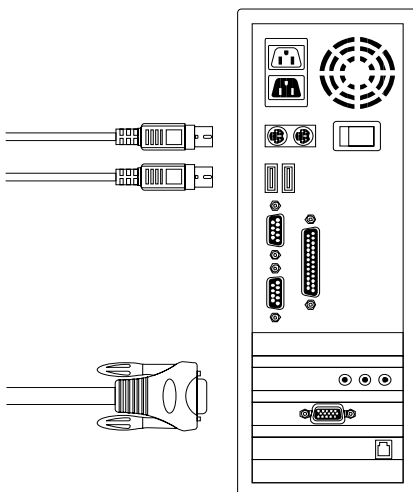

Figure 4: PS/2 (Keyboard & Mouse) and VGA connected
- B. Connect only PS/2 (keyboard/mouse) and VGA connectors to computers (Figure 4).